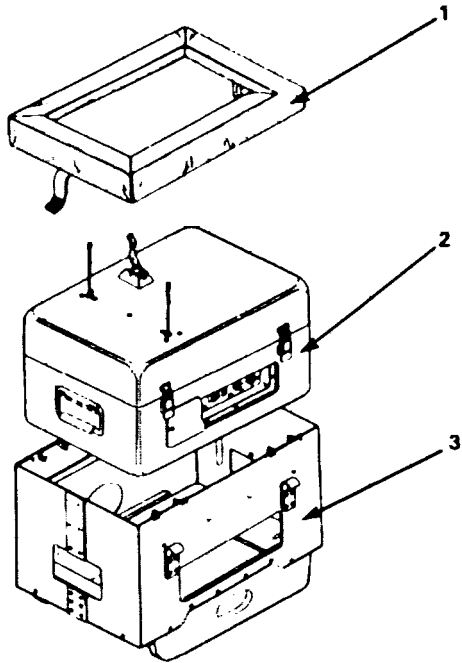

Figure 1-3. Airborne Guidance Unit
- (8) Container. Stows the main deployment bag prior to deployment. The flaps of the container are held closed by the master tie cutter for 6 seconds after the system leaves the aircraft. A clear plastic pocket (not shown on illustration) on the side of the container provides storage for the log record box,)k (not shown on illustration), AGU power switch, tab, and arming pins for the cutters.
- b. Airborne Guidance Unit (AGU). (See Figure 1-3.)
- (1) Protector Skirt. Fits over the top of the AGU cradle. Protects the parachute webbing from the AGU cradle sharp edges.
- (2) AGU. The AGU mechanically manipulates parachute steering lines in response to RF signals received from the T/C. The AGU is housed in a metal case mounted in the protective AGUL cradle. Two flexible antennae extend from the bottom surface of AGU in flight.